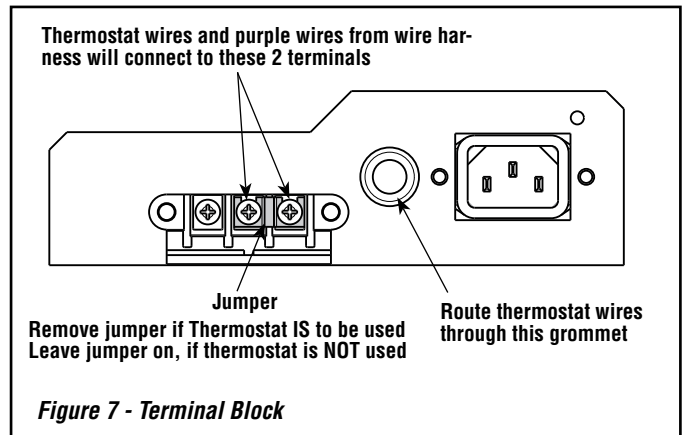

Figure 7 - Terminal Block
- Plug power cord connector into corresponding connector on the back of appliance (see *Figures 7 and 8* showing connector locations).
2. Locate the thermostat terminal block (see *Figures 7 and 8*).